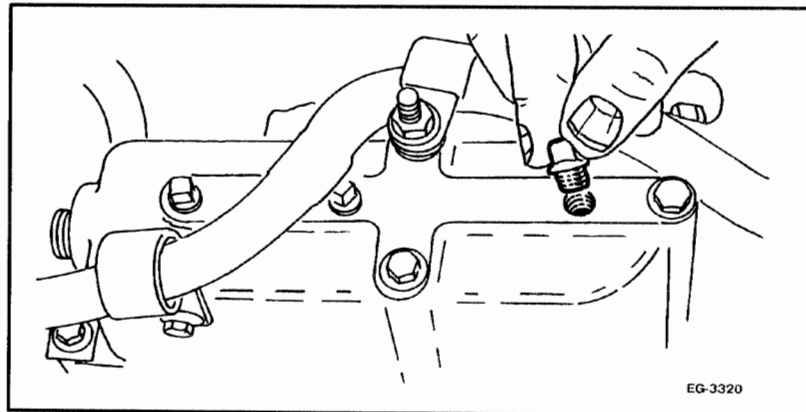

Figure 2.3-1. – Checking Oil Level in Reservoir
4. Check oil level in reservoir. **Figure 2.3-1.**